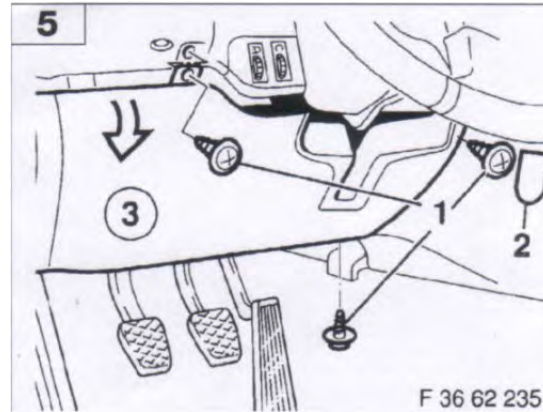

Figure 4 – Removing Driver's Side Lower Dash Panel (Item 3)
- 5.3 Remove driver's side lower dash panel (Figure 4) by unscrewing the three Phillips head screws (Item 1).